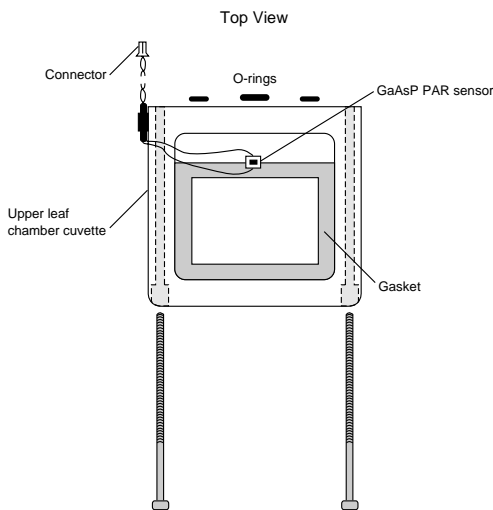

Figure 1. Remove the two screws from the upper leaf chamber cuvette.
2. Remove the upper half of the standard leaf chamber cuvette using the 3/32" hex key provided in the spare parts kit. The upper half of the leaf chamber is secured by two long screws that can be seen in front of the cuvette (Figure 1).